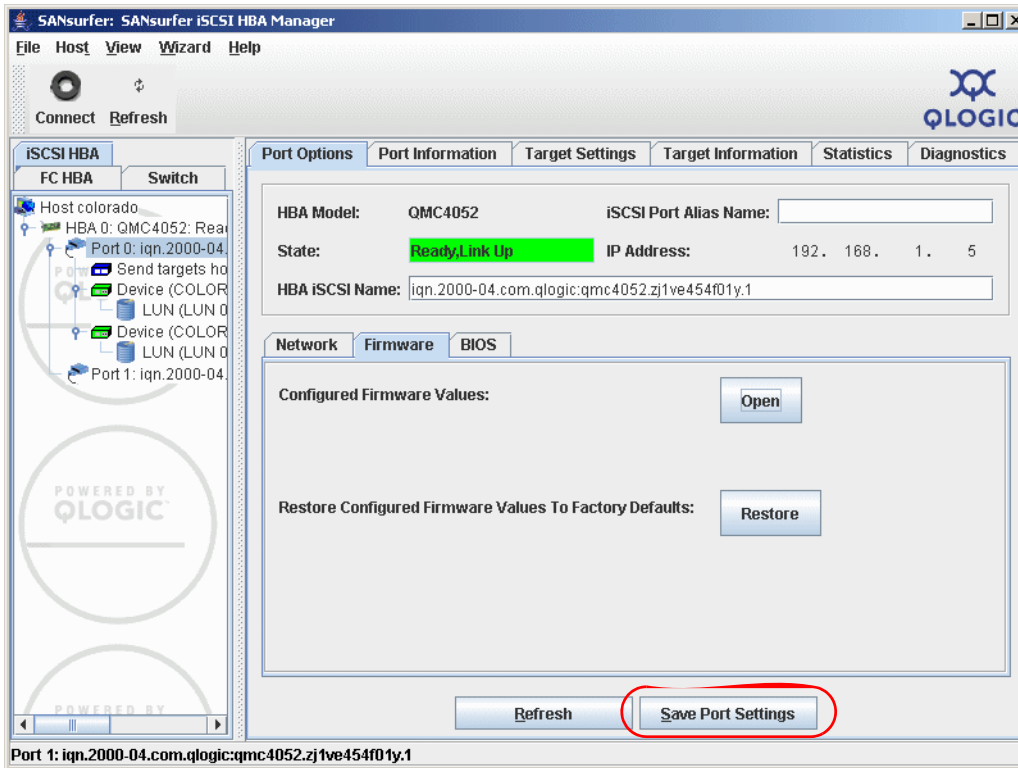

Figure 7-60 Save port settings
- Click **Save Port Settings** as shown in Figure 7-60 on page 264 to apply the firmware setting changes.